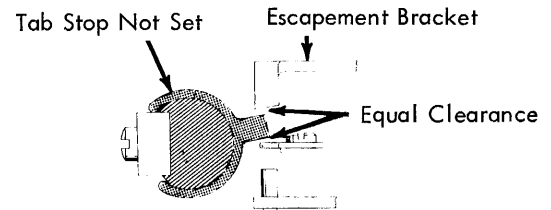

FIGURE 226. Tab Rack Bellcrank Adjustment
1. Tab Rack Bellcrank - Adjust the bellcrank attached to the left end of the tab rack so that an unset tab stop is centered between the tab lever pawl and the tab set lug on the escapement bracket (Fig. 226). Latch the tab lever to the rear to check this adjustment.